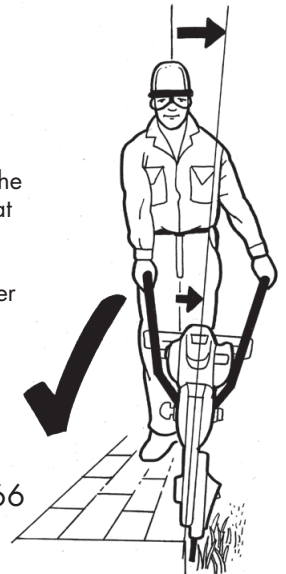

FIG 66
8. Even with the grass growing over the concrete and you cannot see the edge, you can feel the edge of the concrete with the spinning blades by **sideways tilting** the handles of the edger away from the concrete so that the blades tilt towards the concrete and skim below the concrete edge which acts as a guide (Fig 66). Edger blades are made from high tensile hardened spring steel and will last a long time. Once the edge is established the second and subsequent times are very fast.